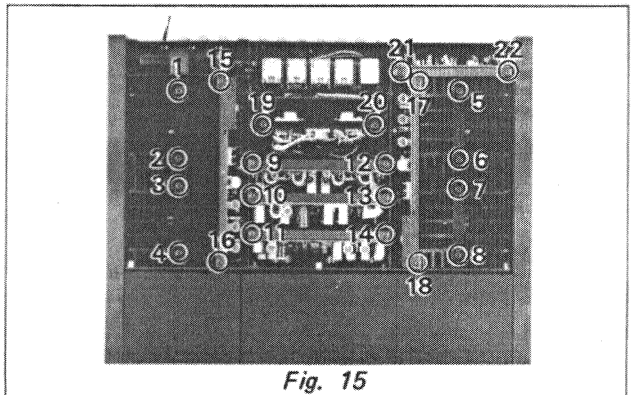

Fig. 15
Remove screws (1) to (8) shown in Fig. 15 and pull out each unit.
Remove screws (9) to (14) shown in Fig. 15 and pull out power supply circuit boards 1 to 3.
Remove screws (15) to (18) as shown in Fig. 15, then pull out the driver circuit board.
Remove screws (19) and (20) as shown in Fig. 15, then pull out the power supply unit.
Remove screws (21) and (22) as shown in Fig. 15, then pull out the filter circuit board.